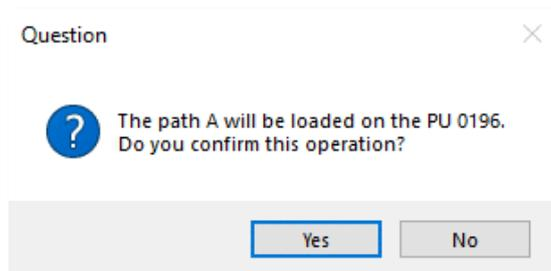

Figure 348 - Confirmation message to exportation.
5. After that, click on RFID () button. A window will appear, asking if the user wants to load the path to the PU (Figure 348);